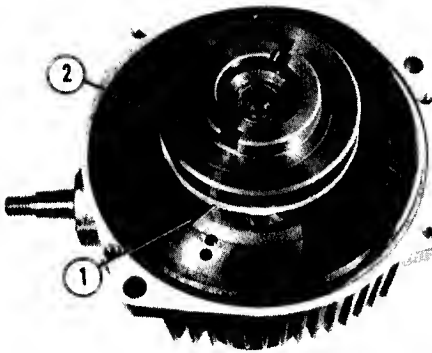

FIG. 4.46-MOTOR ROTOR BALL-PISTONS
11. Being careful not to disturb the transmission place a strong rubber band, No. 1, Fig. 4.46, around the motor rotor to prevent the ball-pistons from falling out.